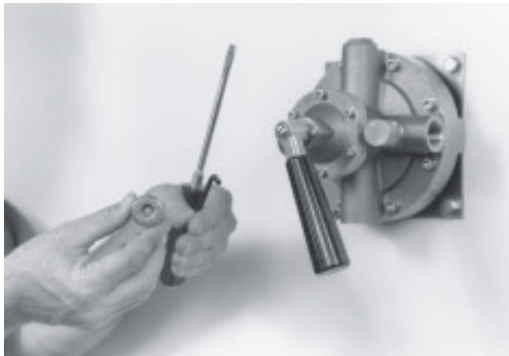

Figure 1.
- Figure 1. Tools required: Flat blade screwdriver, Part #042 Locking Device (includes required 3/16" hex key), 3/32" Hex key (supplied with Steamix Valve/Hose Station).